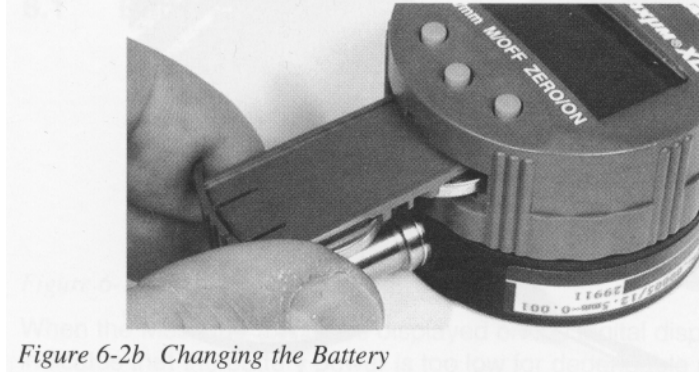

Figure 6-2b Changing the Battery
- 2) Once the battery holder is unlocked, (Ref: fig 6-2b) grab it with your fingers and pull out the battery holder.